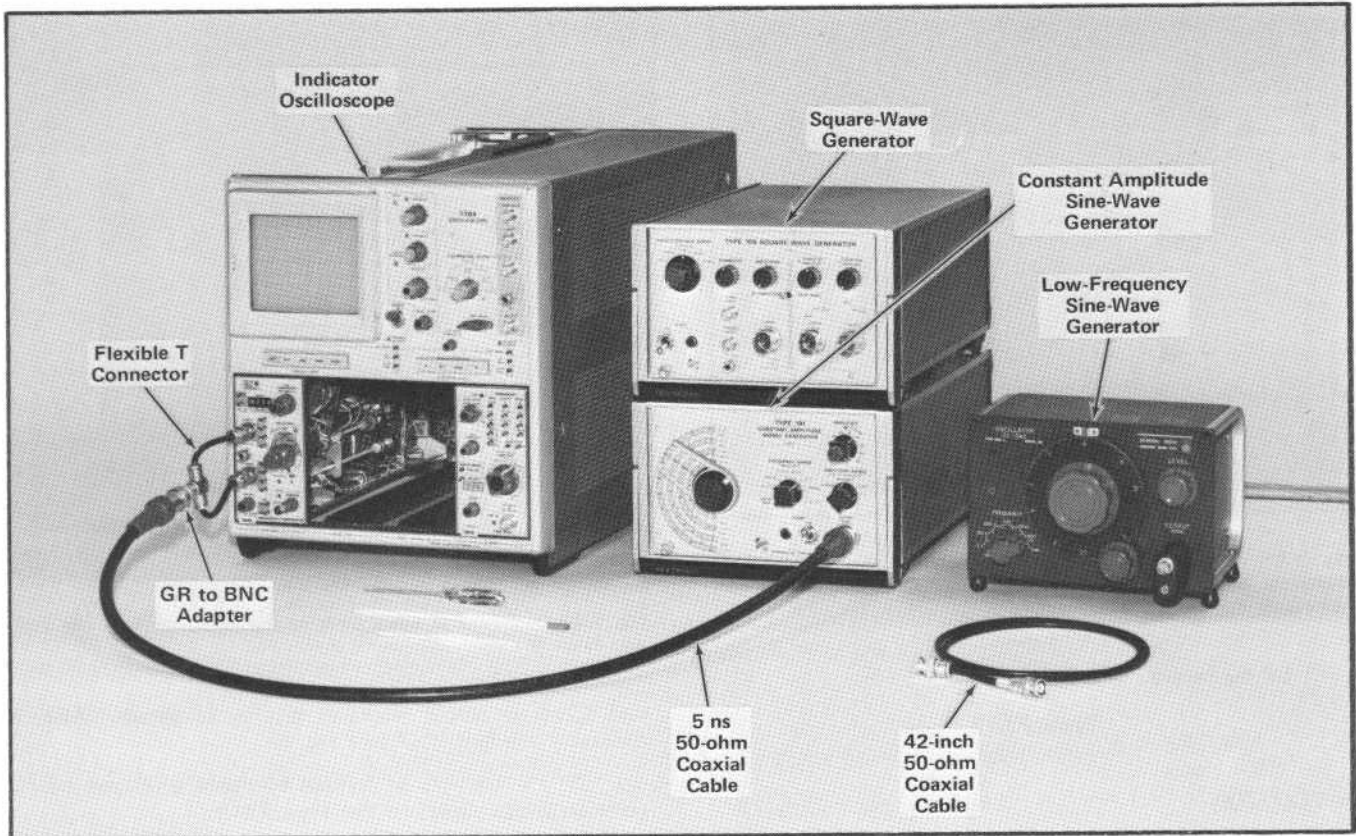

Fig. 5-20. Initial setup showing equipment required for steps 20 through 22.
a. Test equipment setup, with connections made at completion of step 20d is shown in Fig. 5-20.